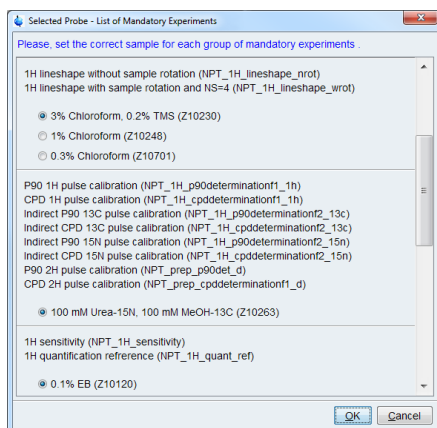

Figure 3-6: Sample selection for experiments
- Select a sample for each experiment or a group of experiments as shown in Figure 3-6. Click **OK** to apply and continue.